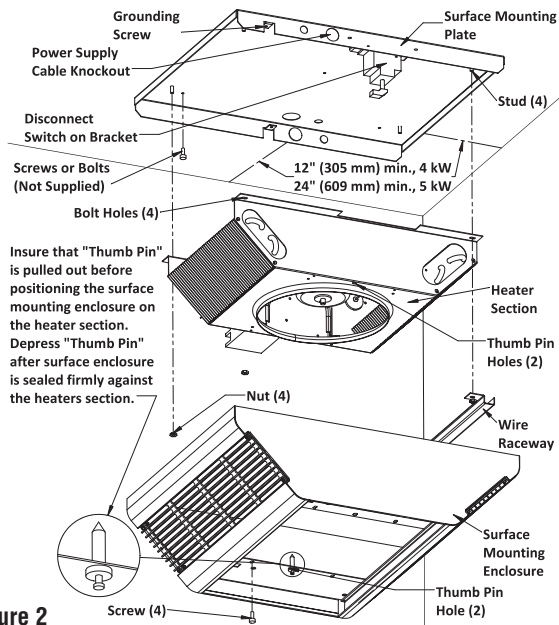

Figure 2
6. Position the surface mounting plate against the ceiling and secure with bolts or screws (Figure 2). See Warning No. 9. Connect the ground wire to the green ground screw on the surface mounting plate.
10. Position the heater section over the studs on the surface mounting plate (Figure 2).
11. Push the heater section onto the studs and securely tighten two nuts (supplied) on the studs to secure the half of the heater section opposite the sleeved wires to the surface mounting plate. Push the raceway onto the studs ensuring that the sleeved wires are in the raceway and securely tighten two nuts (supplied) on the studs to secure the raceway and the other half of the heater to the surface mounting plate (Figure 2).
FAILURE TO INSTALL THE FOUR MOUNTING NUTS COULD RESULT IN THE HEATER FALLING. (SEE FIGURE 2)
**NOTE:** Insure that the "thumb pin" in each end of the discharge grille opening is pulled outward to allow the body of the thumb pins to fit into the holes in the heater section. (Figure 2).
15. Install and securely tighten four screws (supplied) to secure the surface wrapper to the heater section (Figure 2).
FAILURE TO INSTALL THE FOUR SCREWS, COULD ALLOW THE SURFACE WRAPPER TO FALL. (SEE FIG. 2)
FAILURE TO INSTALL THE FOUR MOUNTING NUTS COULD RESULT IN THE HEATER FALLING. (SEE FIG. 2)
FAILURE TO INSTALL THE FOUR SCREWS, COULD ALLOW THE SURFACE WRAPPER TO FALL. (SEE FIGURE 2)